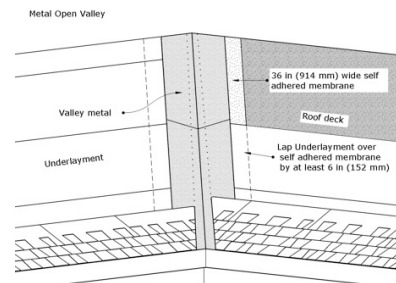

Figure 8
- Apply the first course of shingles along the eave until it meets the center of the valley. Trim the valley shingle so that it matches the chalk line and also has a 1 inch (25mm) 45° angle cut from the top of the shingle. See Figure 8.